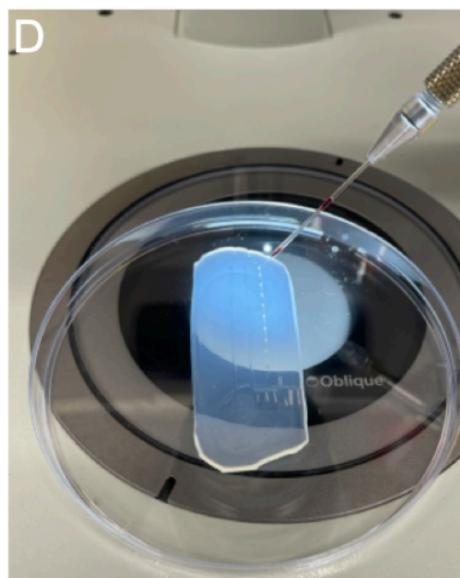

Figure SP2D. Injecting zebrafish using a stereomicroscope and a micromanipulator holding a glass needle.
- 33 Using a magnification of 56X, position the needle into the otic vesicle and inject (Fig. SP2D).